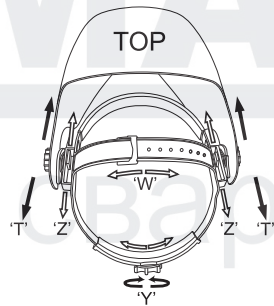

Fig.1
- Loosen the block nut on either side of the helmet and slide it nearer or further from your face. (See adjustment "Z" in fig.1). It is important that your eyes are each the same distance from the lens. Otherwise the darkening effect may appear uneven. Re-tighten the block nut when complete the adjustment.
- Adjusting view angle position (see fig.1)
- The overall circumference of the headband can be made larger or smaller by rotating the knob on the back of the headband. (See adjustment "Y" in fig.1) This can be done while wearing the helmet and allows just the right tension to be set to keep the helmet firmly on the head without it being too tight.
- If the headband is riding too high or too low on your head adjust the strap which passes over the top of your head. To do this release the end of the band by pushing the locking pip out of the hole in the band. Slide the two portions of the band to a greater or lesser width as required and push the locking pip through the nearest hole (See adjustment "W" in fig.1).